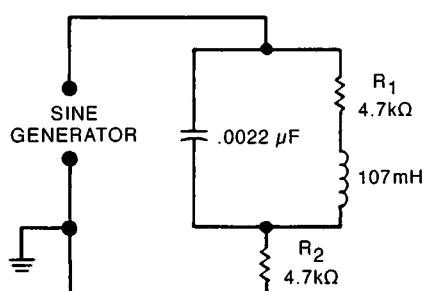

Figure 5-27
1. Construct the circuit shown in Figure 5-27. Make sure the inductor's core is centered in the coil.
6. Interchange the leads from the generator once more so that the circuit appears like the one shown in Figure 5-27. Connect the voltmeter across resistor R_2 and replace resistor R_1 with a jumper wire. What happens to the voltage across R_2 when R_1 is removed from the circuit? _____
In the first part of the experiment, you constructed the parallel-resonant circuit shown in Figure 5-27. Note that R_1 is in the tank circuit while R_2 is in series with the tank. The computed resonant frequency is about 10,480 Hz. In step 3 you adjusted the frequency control until the voltage across R_2 was minimum. This occurred when the line current was minimum. In other words, it occurred at resonance. The resonant frequency you read from the dial should have been reasonably close to the value you computed in step 2.